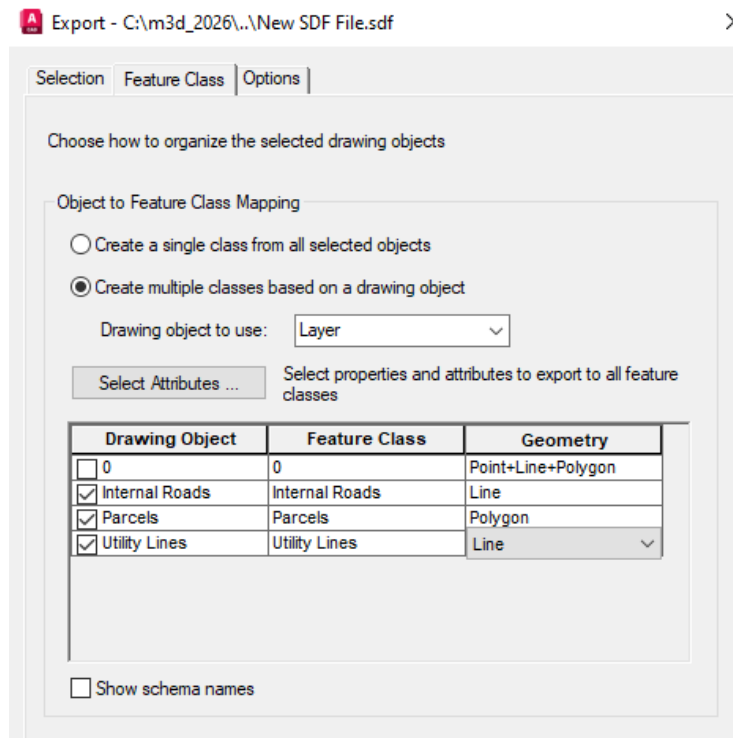

Figure 2-40 Partial view of the **Export** dialog box showing the **Geometry** option selected for the drawing object
11. Repeat the procedure mentioned in steps 9 and 10 and select the **Polygon** and **Line** geometry options for the **Parcels** and **Utility Lines** drawing objects respectively, refer to Figure 2-40.